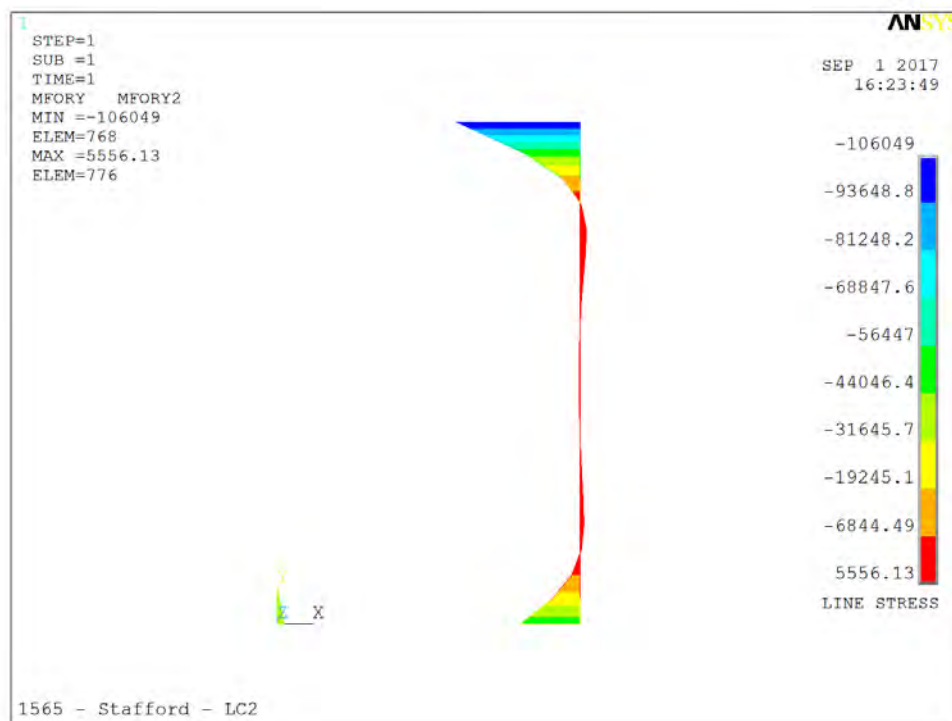

Fig. 2E
- **Fig. 2E - Wall shear force (lbs/360)**